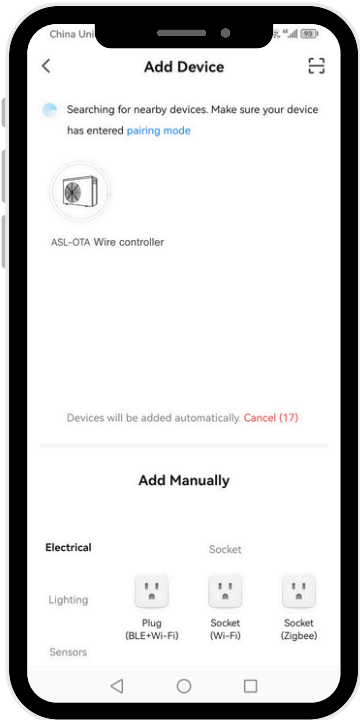

Figure 3
Step 4: After searching for the device, as shown in Figure 3, click the device icon to enter the network configuration.